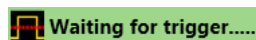

Figure 4-3. Waiting for Trigger
2. Click  At this point, because the DUT is not transmitting, you should see the “waiting for trigger” status message - Figure 4-3.
2. Click  to run the selected tests in a continuous loop. At this point, because the DUT is not transmitting, you should see the “waiting for trigger” status message - Figure 4-3.